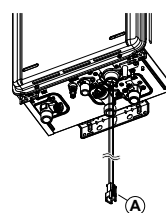
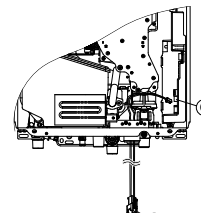

Fig. 1
Fig. 2
3. Pass sufficient cable through the cable access (Fig. 1); connect the terminal end to the PCB © (Fig.2);